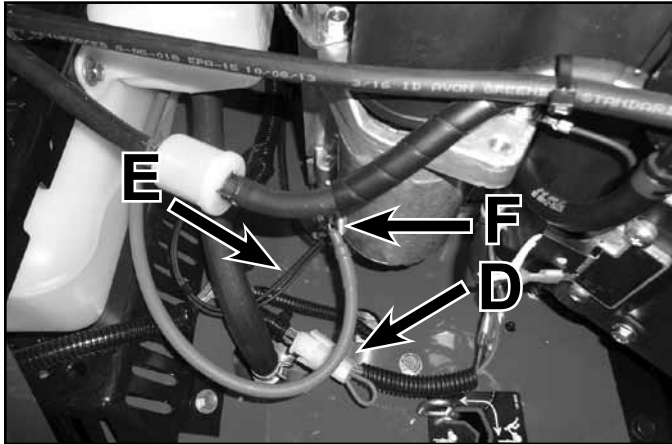

Fig. 053
2. Connect the battery ground wires (E) to the engine block, and connect the positive battery wire (F) to the engine starter motor.
3. Connect the chassis to engine harness connector (D) (Fig. 053).